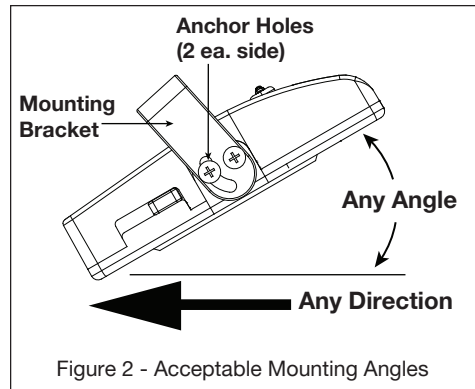
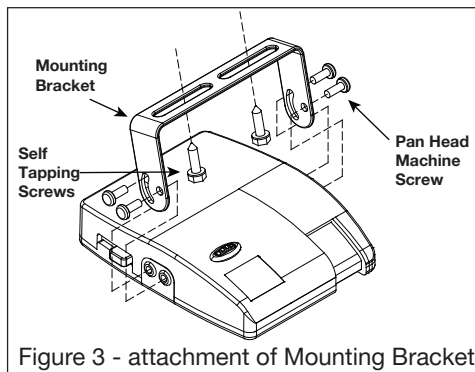

Figure 2 - Acceptable Mounting Angles
Figure 3 - attachment of Mounting Bracket
1. Install the mounting bracket to a solid surface under the tow vehicle dash or other suitable location using the two self-tapping screws and fasteners provided. Tighten until snug. **See Figure 2- Acceptable Mounting Angles and Figure 3 - Attachment of Mounting Bracket.**